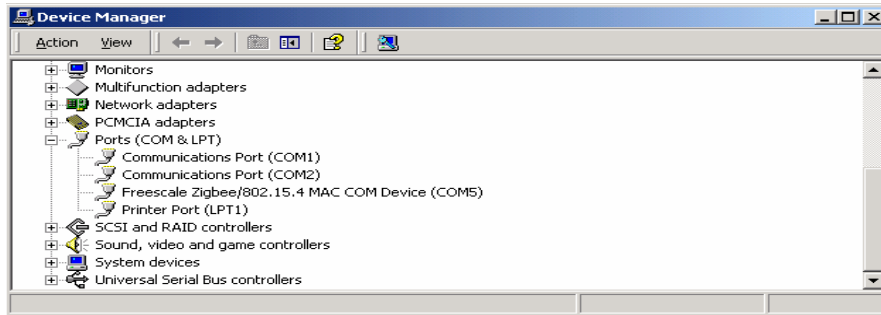

Figure 2. COM Port Determination in Device Manager
- b) Select the “Hardware” tab, and click the “Device Manager” button. The Device Manager window appears as shown in Figure 2.
- d) The COM Port selected by the system is titled “Freescale ZigBee/802.15.4 MAC COM Device (COM5)” as shown in Figure 2.